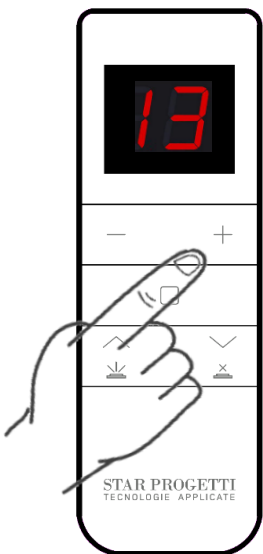
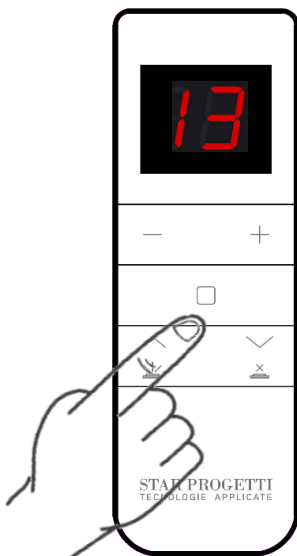

Fig.3
Fig.4
- use the "+" and "-" buttons to select channel 13 Fig. 3 and then press the button as shown in Fig. 4